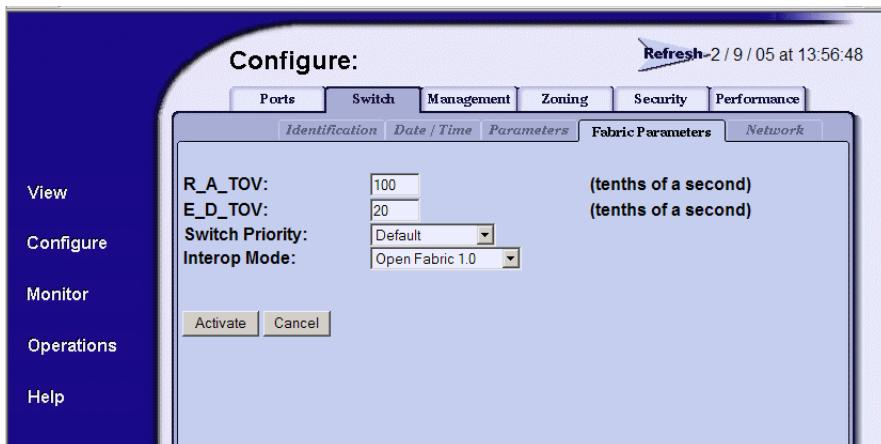

Figure 46 Switch page—Fabric Parameters tab
3. At the Configure panel, click the **Switch** tab, then select **Fabric Parameters**. The Switch page is displayed with the Fabric Parameters options (Figure 46).